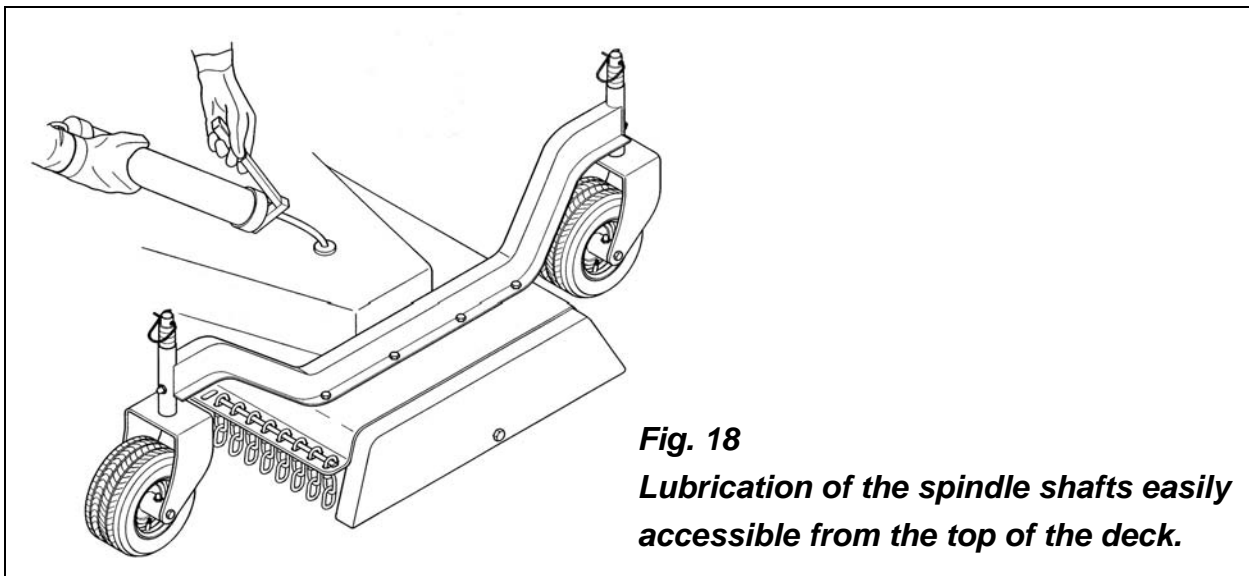

Fig. 18
1. Lubricate the nine spindles with two or three shots of multipurpose grease (**see fig. 18**). The top grease fittings are easily accessible from the top of the deck by simply removing the plastic dust guards.